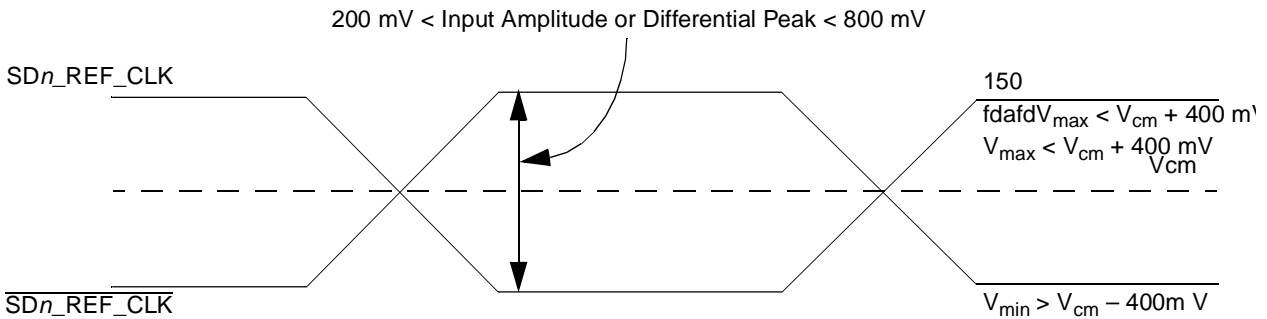

Figure 54. Differential Reference Clock Input DC Requirements (External AC-Coupled)
- For **external AC-coupled** connection, there is no common mode voltage requirement for the clock driver. Since the external AC-coupling capacitor blocks the DC level, the clock driver and the SerDes reference clock receiver operate in different command mode voltages. The SerDes reference clock receiver in this connection scheme has its common mode voltage set to `SGND_SRDSn`. Each signal wire of the differential inputs is allowed to swing below and above the command mode voltage (`SGND_SRDSn`). Figure 54 shows the SerDes reference clock input requirement for AC-coupled connection scheme.